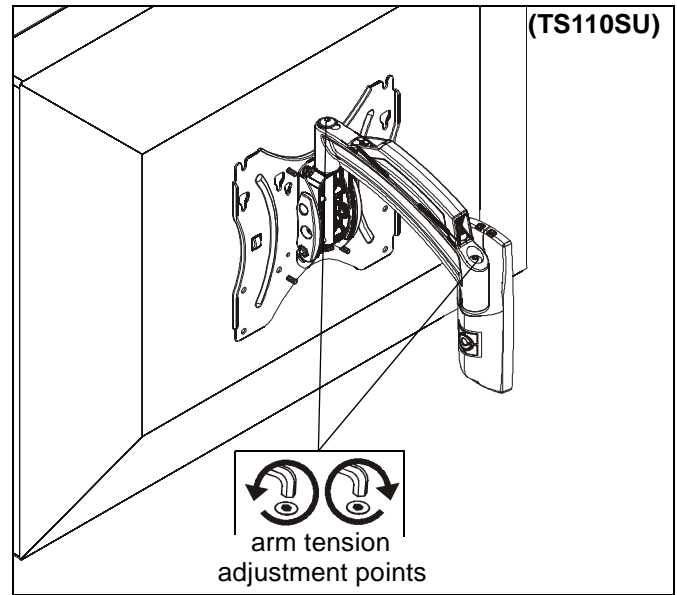
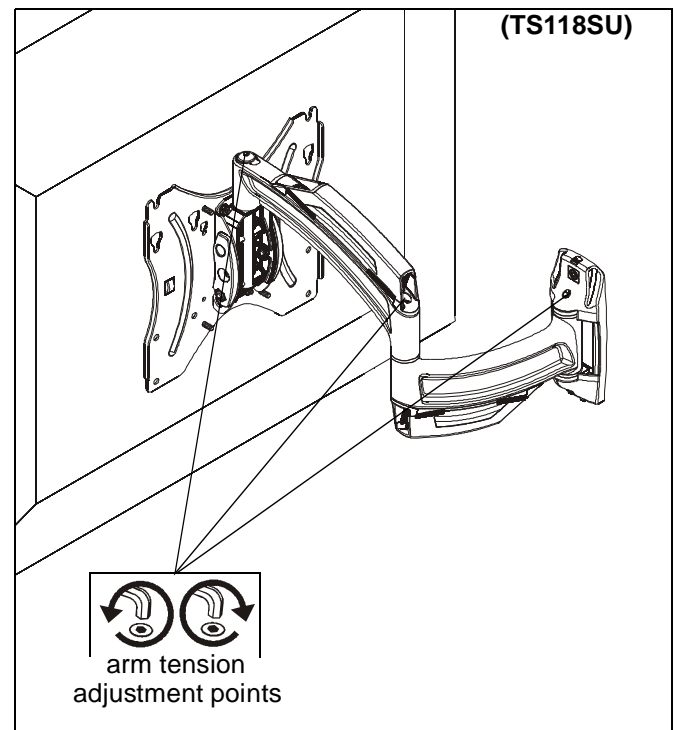

Figure 14
Figure 15
1. Use 3/16" hex key (T) to adjust arm tension at any of the tension adjustment points. (See Figure 14) or (See Figure 15)